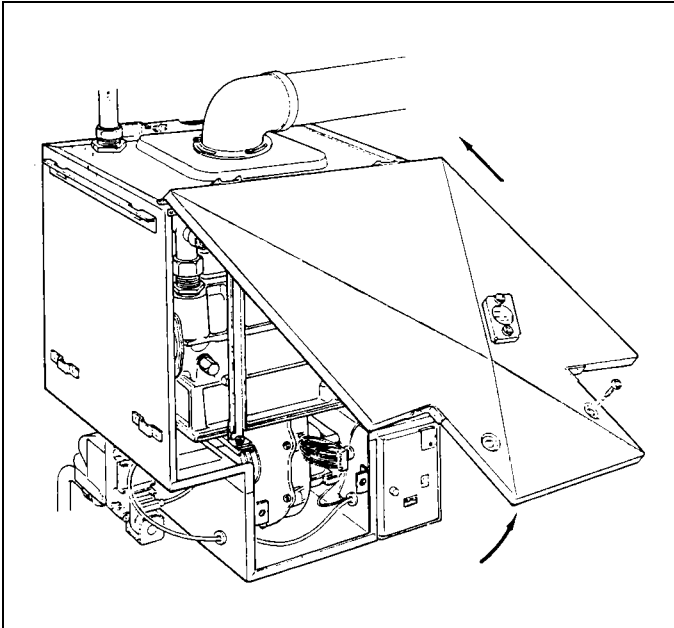

FIG. 15 REMOVING FUNCTIONAL CASE DOOR
- 3) Remove functional case door by undoing the two lower securing screws and lift door off the two upper hinge brackets. FIG. 15.